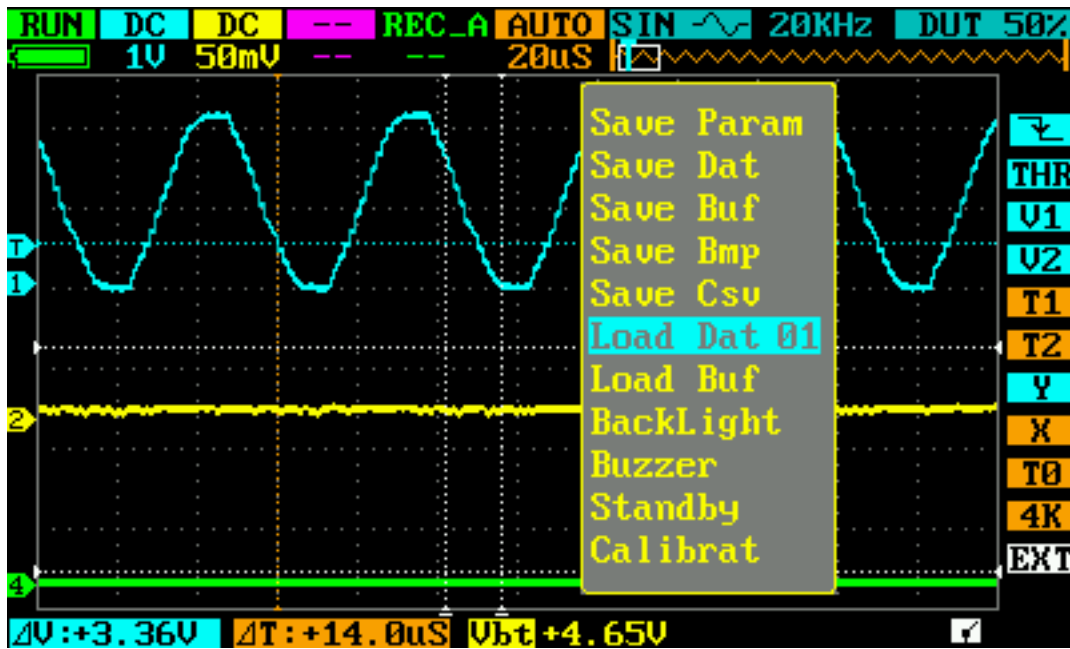

Figure 4.2
- Input unknown signal to CH_A, in E position choose REC_A, press (■), choose Load Dat, as Figure 4.2: